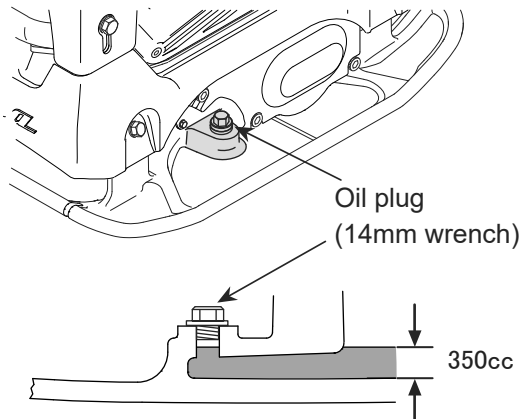

Fig. 4
- Recommended oil quantity is 350cc. (Fig. 4)